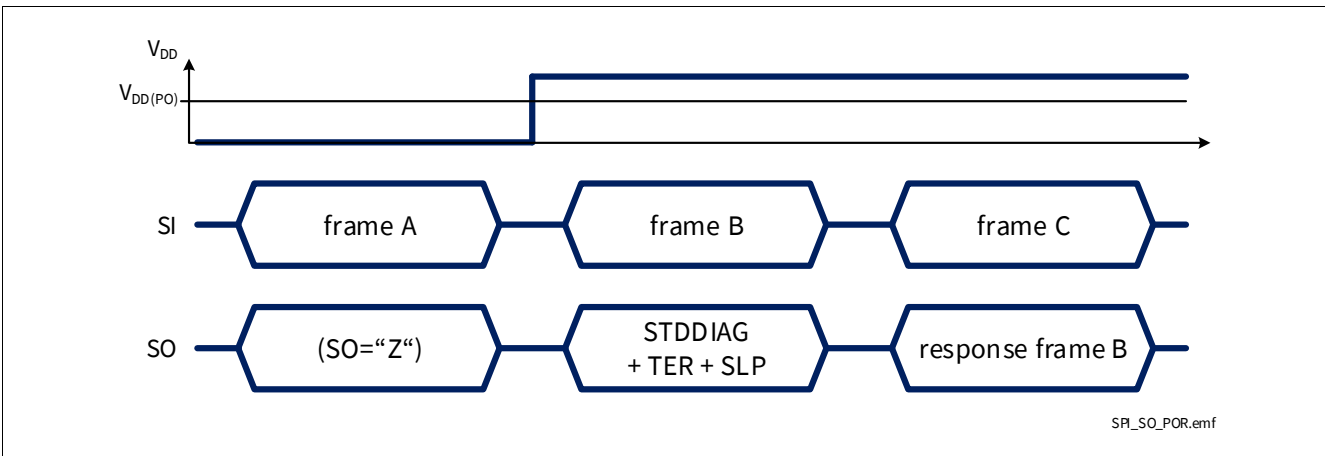

Figure 44 SPI response after coming out of Power-On reset at V_{DD}
- When BTS71033-6ESP digital supply comes out of Power-On reset condition, as shown in Figure 44